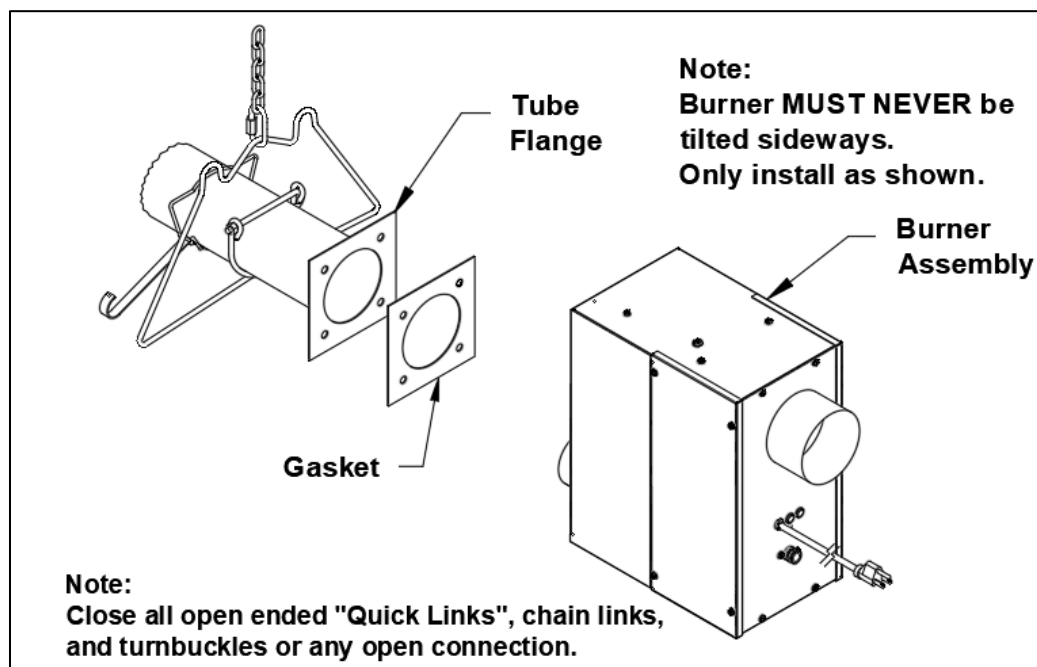

Figure 13: Burner Gasket Installation
- Locate the burner gasket provided, bolt the burner in place on the tube flange with provided hardware. **Burner must never be installed in a tilted position.** The sense electrode of the burner cup should be in the 12 o'clock position (Figure 13)